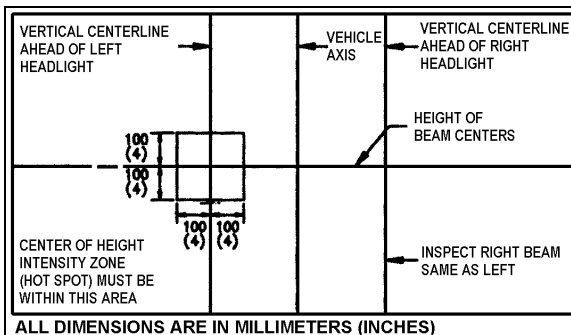

FIGURE 33: AIM INSPECTION LIMITS FOR UPPER-BEAM HEADLIGHTS 06505
7. The inspection limits for high-beam headlights shall be with the center of the high-intensity zone from 10 cm (4 in) up to 10 cm (4 in) down; and, from 10 cm (4 in) left to 10 cm (4 in) right on a screen at 7.6 m (25 ft) (Fig. 33).